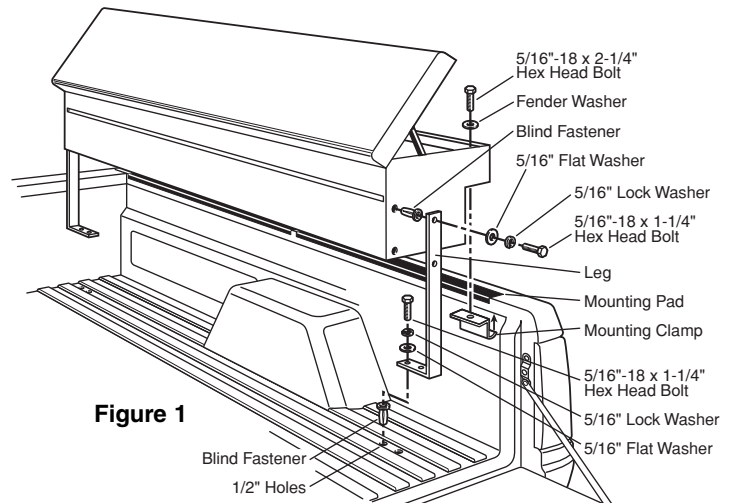

Figure 1
- Position rear leg as shown in Figure 1. Use square to ensure vertical orientation.
- Install all Blind Fasteners (see Figure 1, 2 and 4).